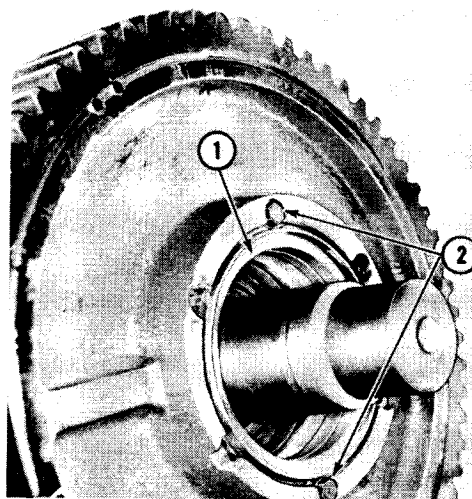

Figure 14-27
Position seal retainer (1, Fig. 14-27) on hub and install two cap screws (2) with washers, 180° apart. Tighten cap screws evenly; finger tight.